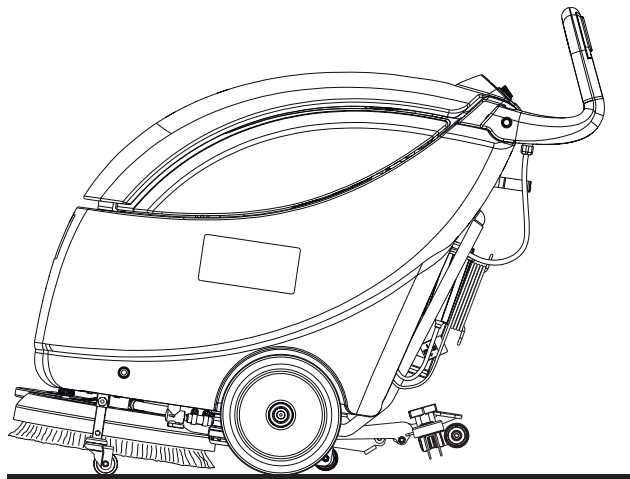

Figure 3
10. Release the brush enabling push-buttons (51).
11. Turn the switch (53) to "0", to turn off the vacuum system motor.
12. Turn the switch (53) to "0", to turn off the brush motor.
13. To turn off the machine, turn the main switch (26) to "0".
14. Disconnect the power supply cable plug (21) from the electrical mains and place it on the holder.
15. Engage the positioning pin (24) and activate the machine transport/parking device (23a) to keep the brush/pad-holder lifted (see Fig. 3).
1. To turn off the machine, turn the main switch (26) to "0".
2. Disconnect the power supply cable plug (21) from the electrical mains and place it on the holder.
3. Lift the squeegee (46).
4. Engage the positioning pin (24) and activate the machine transport/parking device (23a) to keep the brush/pad-holder lifted (Fig. 3).
6. In order not to drag the brush/pad on the floor and leave wet marks, when finishing working, remove the brush/pad-holder from the deck by using the disengagement procedure (see the next paragraph), then place it on the front holder (33).